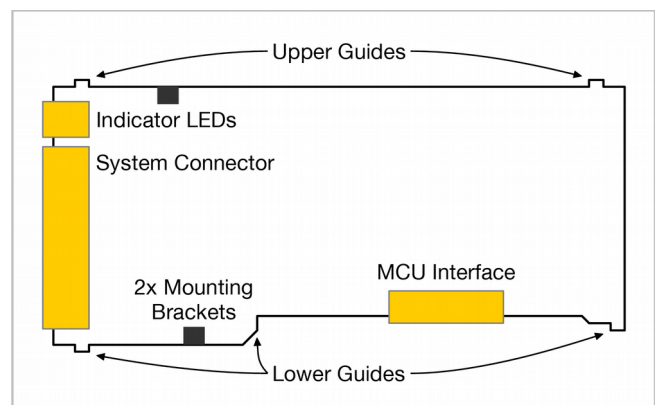

Figure 2: Parts of a SwitcherGear module.
11. Install the module – hold the module above the MCU interface connector, ensure correct alignment of the MCU interface connector and lower guides (see Figure 2), then gently press module down.